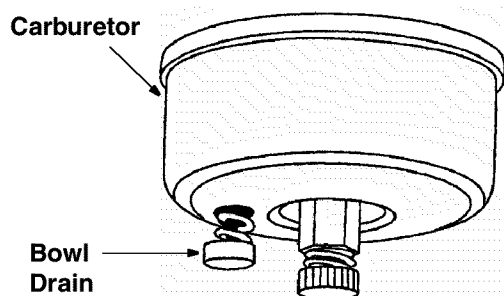

Figure 30
- Drain carburetor by pressing upward on bowl drain, located below the carburetor cover. See Figure 30.
- Remove the spark plug and pour one (1) ounce of engine oil through the spark plug hole into the cylinder. Cover spark plug hole with a rag and crank the engine several times to distribute the oil. Replace spark plug.